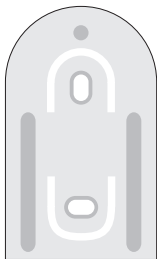

Figure 2
- Place the wall holder vertically against the wall with the round side pointing up, see figure 2.